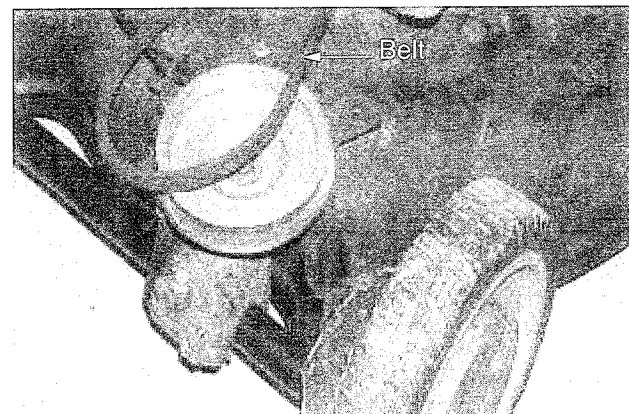

Figure 24
4. Remove the belt from the transmission. See Figure 24.